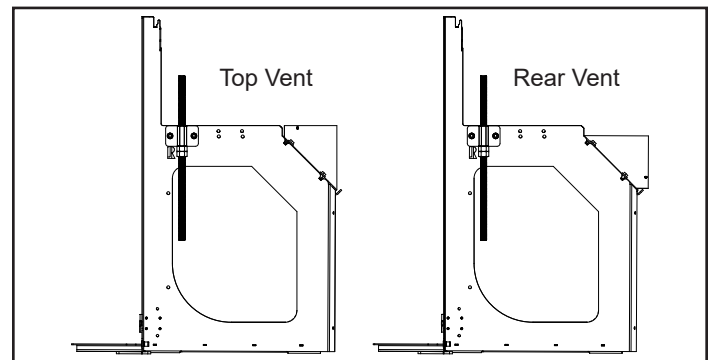

Figure 5.4
Loosen the four mounting bolts and adjust the angle of the collar as needed, Figure 5.4. (2) of the bolts may need to be removed in order to position the collar properly. **Note:** When installed in a rear vent configuration, the maximum BTU may be reduced due to elevated ESP temperatures associated with the horizontal exhaust stream.